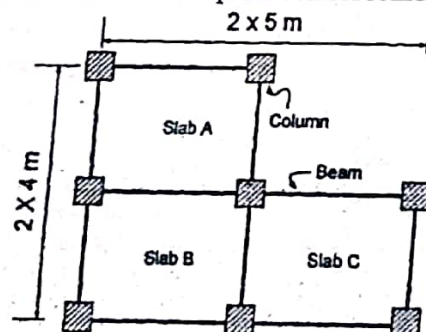

Fig. 3(a)
- 3(a) Design Slab B for the floor grid of a building as shown in Fig. 3(a). It is subjected to superimposed load of 4 kN/m², and surface finish of 1.2 kN/m². Refer IS Code for Bending moment coefficients. Sketch complete reinforcement detailing. 12+4